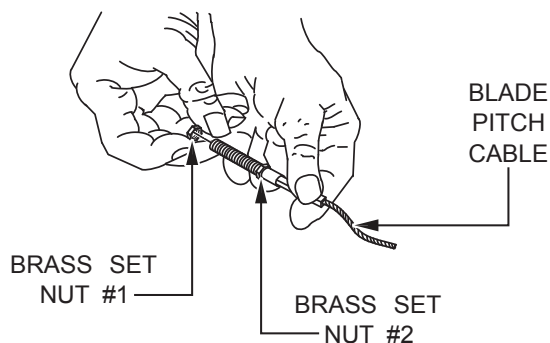

Figure 14. Blade Pitch Cable
3. Remove brass set nut #1 from the end of the blade pitch cable (Figure 14).
4. Thread brass set nut #2 as far as possible toward the blade pitch cable (Figure 14).